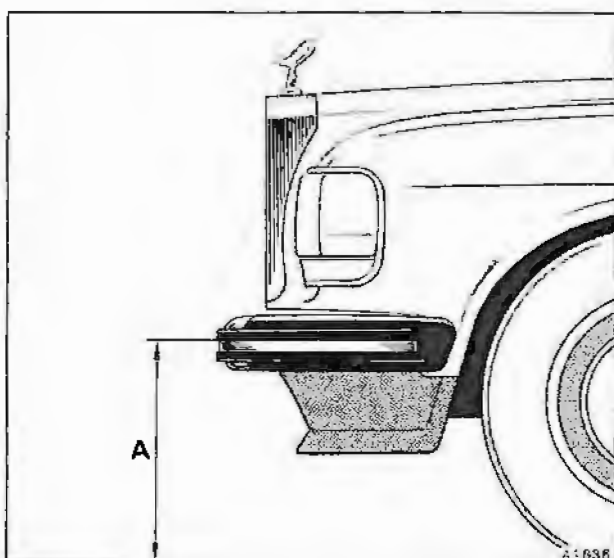

Fig. S10-5 Bumper height
Bumper height – To check (see fig. S10-5)
4. Measure the front and rear bumper height to the position indicated in figure S10-5.